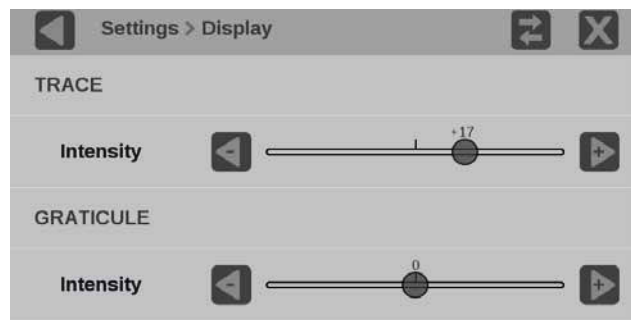

Figure 83: Trace and graticule intensity sliders
3. Use the ➡️ icon to increase intensity or the ⬅️ icon to decrease intensity of the trace or graticules. (See Figure 83.)